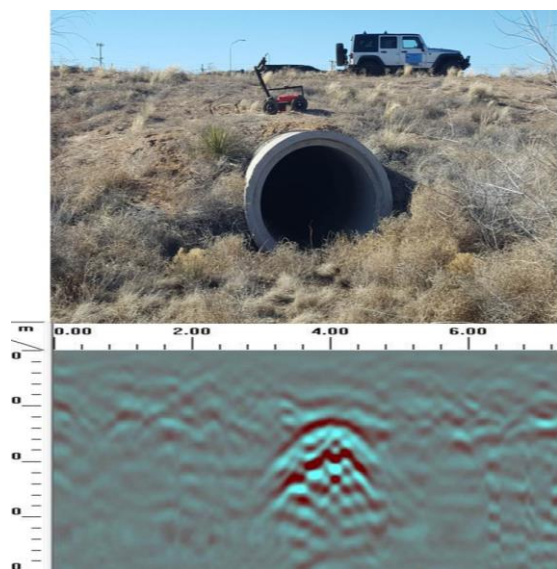

Figure 1: 2D Survey Example.
**2D Surveys (Figure 1):** On average, up to thirty 50-meter long reflection profiles can be collected per day. These reflection profiles are typically used for utility locating and marking in the field, location of areas of interest for further study by 3D surveys, and other projects where a plan-view map of the area of interest is not needed. 2D surveys do not typically need a lot of set up time and can usually be done “on the fly”.